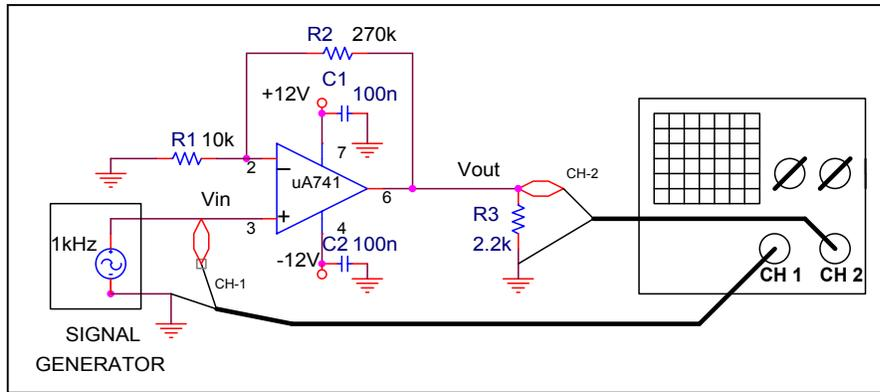

Figure 6.7 Measurement circuit for non-inverting amplifier
- For a sine wave signal source (used for simulating the circuits in Figures 6.7 and 6.8), use a 1MHz Sine Source from the *Micro-Cap* library. The Sine Source can be found under the **Component** menu by selecting **Analog Primitives** then **Waveform Sources** then **Sine Source**. Set the required frequency to $F=1k(\text{Hz})$ and the AC Amplitude to $A=0.2(\text{V})$ in the model description area of the signal source. **Note** that $A=0.2\text{V}$ corresponds to a magnitude of $V_{p-p}=0.4\text{V}$.
- [8 MARKS]** Simulate the non-inverting amplifier shown in Figure 6.7. Plot both the output and input waveforms for a *sine waveform* input signal with $V_{in_{p-p}}=0.4V$ at 1kHz.
1.1. Build the circuit of Figure 6.7 using an 8-pin uA741 op-amp with $R_1 = 10\text{k}\Omega$, $R_2 = 270\text{k}\Omega$. To achieve better circuit stability, connect 100nF capacitors between pins #4 and #7 of the uA741 and the Ground, as shown in Figure 6.7.
Circuit of Figure 6.7 connected and equipment used correctly
15	Circuit of Figure 6.7 connected and equipment used correctly